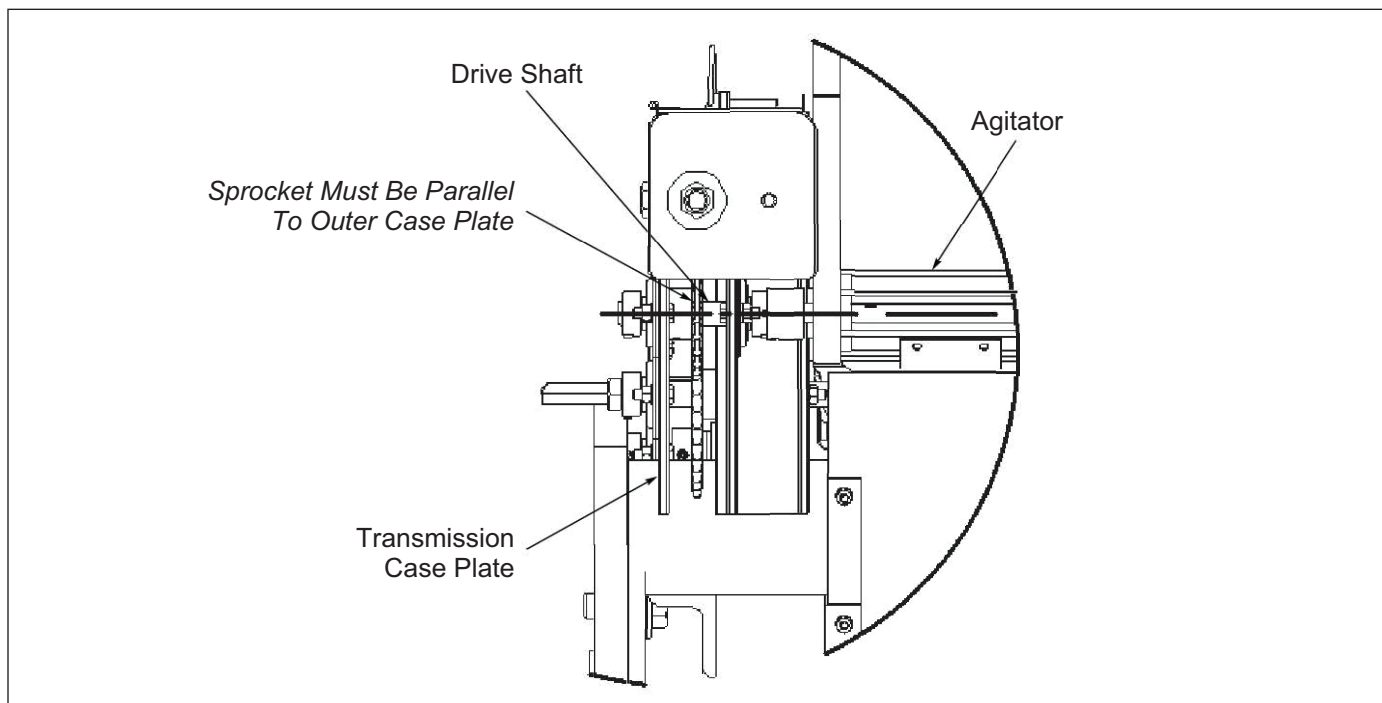

Figure 5-18: Transmission Shaft is Square in Transmission
- Check that the Transmission Shaft that drives the Brome Box is square in the transmission (sprocket must be parallel with the outer case plate) and aligned with the Brome Box Shaft. Loosen bearings and adjust if necessary. **See Figure 5-18.**